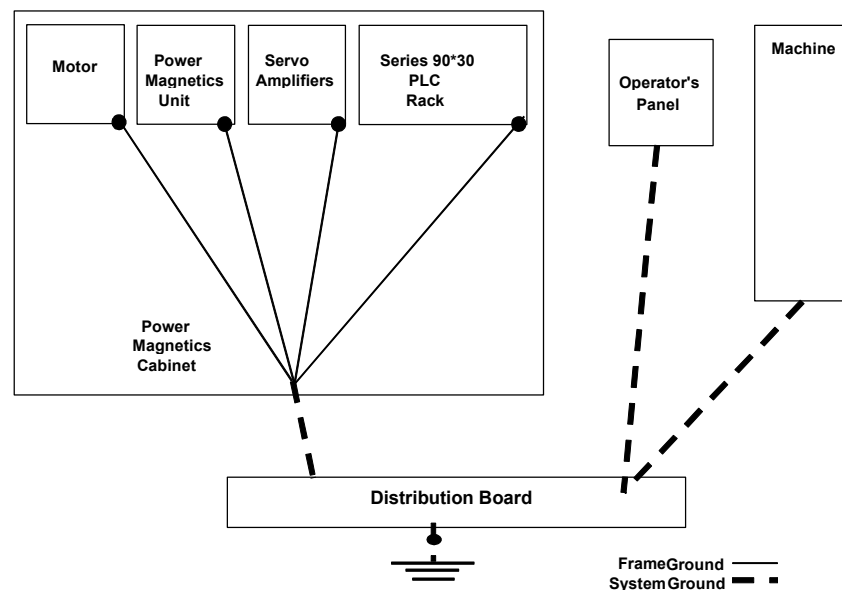

Figure 2-16. Motion Mate DSM314 System Grounding Connections
- The system ground cable must have sufficient cross-sectional area to safely carry the accidental current flow into the system ground when an accident such as a short circuit occurs. Typically, it must have at minimum the cross-sectional area of the AC power cable. Figure 2-16 illustrates the grounding systems.
- The amplifier ground connections, power earth (PE) connections, and motor frame ground connections should always be wired to conform to local electrical wiring regulations. When installing in conformance to CE Mark directives, a grounding bar and clamp(s) (ordered separately) is required for the terminal block to amplifier cable. Refer to Chapter 3, Installing and Wiring the DSM314, I/O Cable Grounding section, for more details.